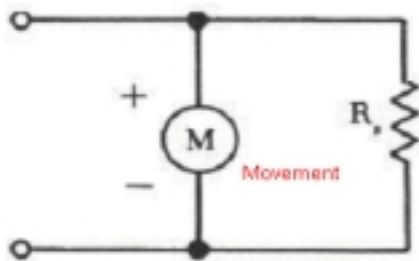

Fig. 8
**Extending the Range of an Ammeter:** A 0 - 1 mA movement may be used to measure currents greater than 1 ma. by connecting a resistor in parallel with the movement. The parallel resistor is called a shunt because it bypasses a portion of the current around the movement, extending the range of the ammeter. A schematic drawing of a meter movement with a shunt connected across it to extend its range is shown in figure 8.